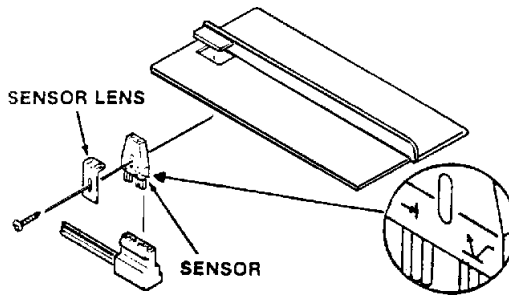

Figure 32. Edge guide Photo Sensor Installation
- b). Remove the single screw holding the photo sensor to the edge guide, and remove the photo sensor from the edge guide (See Figure 32).
- k). Attach the photo sensor to the edge guide aligning the sensor flush with the paper path (See Figure 32).